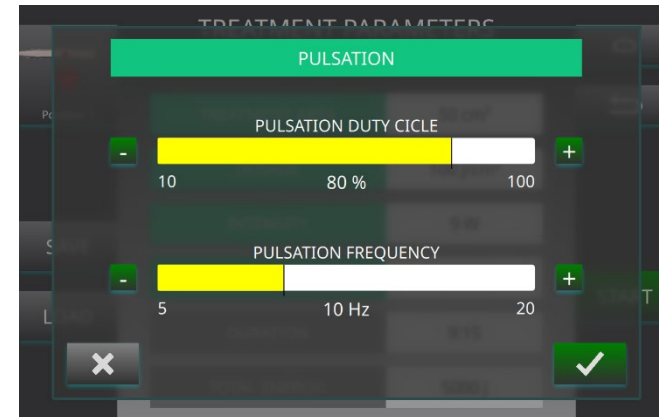

fig. 7
- For the **PULSATION** parameter it is necessary to set the PULSATION WORK CYCLE (%) and PULSATION FREQUENCY (Hz) parameters by increasing or decreasing the value using the + or - buttons or by scrolling the cursor to the right or left until the desired value is reached. (figure 7).